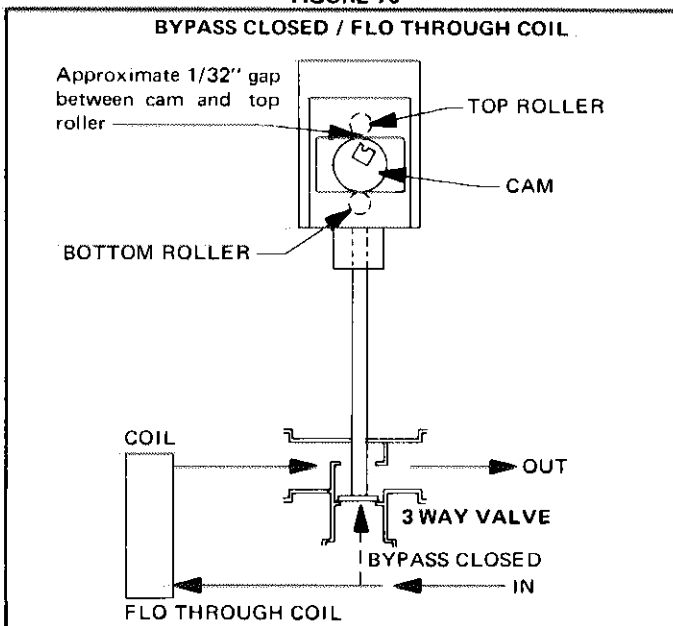

FIGURE 77
- 3 - Remove jumper across C and F terminals. Motor shaft should rotate counterclockwise, lowering valve stem. Refer to Figure 77.